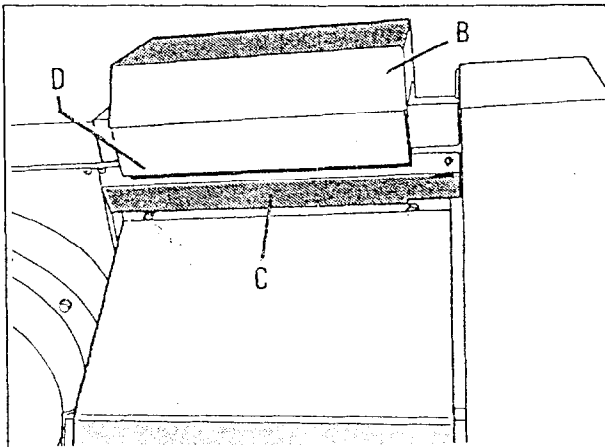

Fig. 5
- Unscrew the cover plate (C/ Fig.5) and the cover housing (D/ Fig.5).